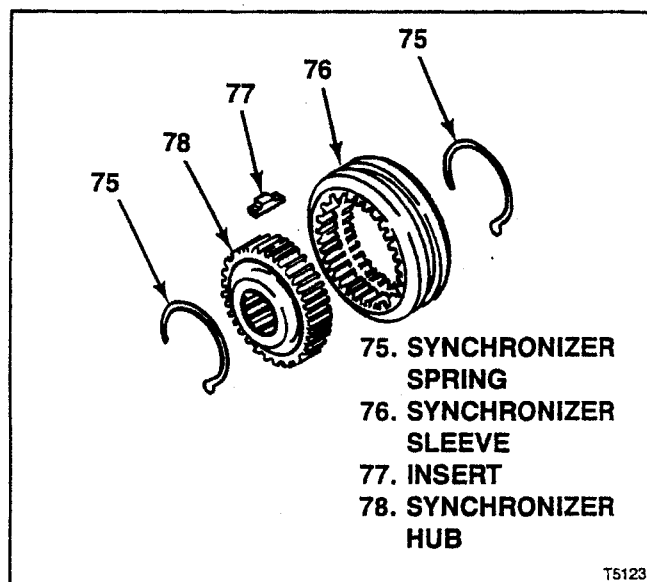
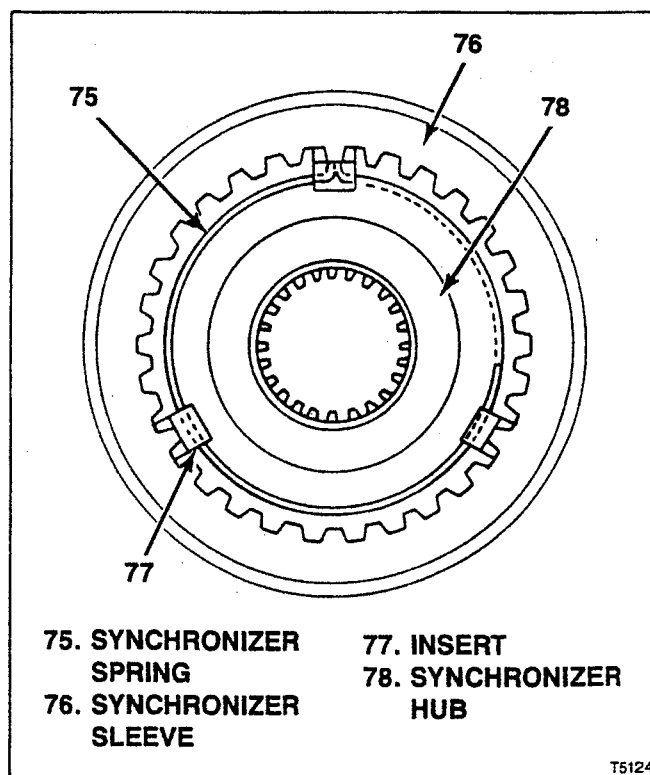
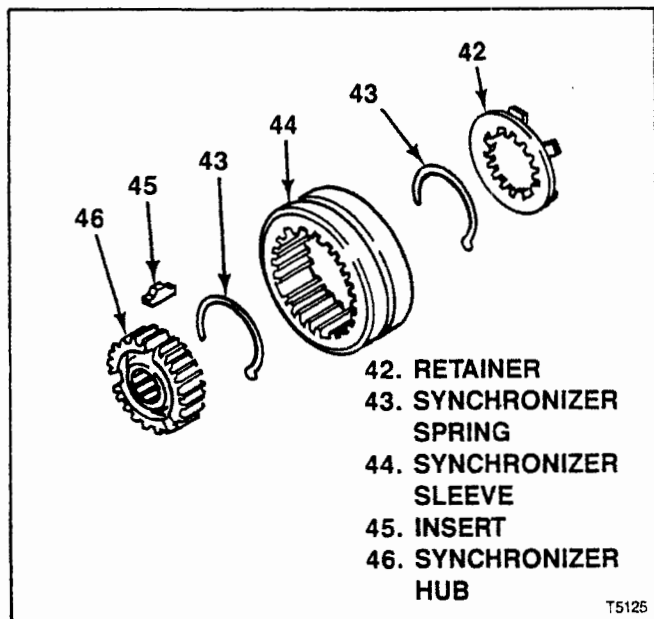

Figure 7-1. T5 NWC 3rd-4th Synchronizer Assembly
Figure 7-2. T5 NWC 3rd-4th Synchronizer Assembled
Figure 7-3. T5 NWC 5th Synchronizer Assembly
- Bearing (39)
- Bearing cone (61)
- Bearing rollers (63)
- Thrust bearing (64)
- Bearing cone (68)
- Needle bearing (71)
- Bearing (101)
- Bearing (103)
7-6. **ASSEMBLY OF T5 NWC 3RD-4TH SYNCHRONIZER ASSEMBLY** (see figure 7-1). Be sure to assemble sleeve (76) and hub (78) aligning marks made at disassembly (see figure 7-2) so that clutch teeth and part faces are assembled exactly as they were originally. Assemble as follows:
b. Hook one end of one spring (75) under one of the inserts (77) and wrap around inside, under all three inserts. Hook other end of spring under insert (see figure 7-2).
c. Invert assembly. Hook remaining spring (75) under opposite end and side of same insert (77) where step b was started but wrap around inside in opposite direction from step b, under all three plates. Hook other end of spring under insert (77) (see figure 7-2).
d. Position sleeve (76) and inserts (77) so that all inserts snap into neutral position.
7-7. ASSEMBLY OF T5 NWC 5TH SYNCHRONIZER ASSEMBLY (see figure 7-3). Be sure to assemble sleeve (44) and hub (46) aligning marks made at disassembly so that clutch teeth and part faces are assembled exactly as they were originally. Assemble as follows: